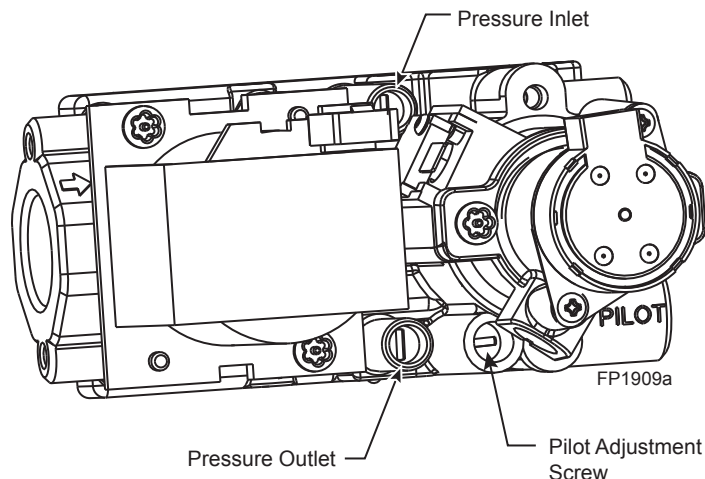

Figure 49 -
4. To check gas pressures at valve, turn captured screw counter clockwise 2 or 3 turns and then place tubing to pressure gauge over test point. Turn unit to high. *Figure 49.* After taking pressure reading, be sure and turn captured screw clockwise firmly to reseal. Do not over torque. Check test points for gas leaks.